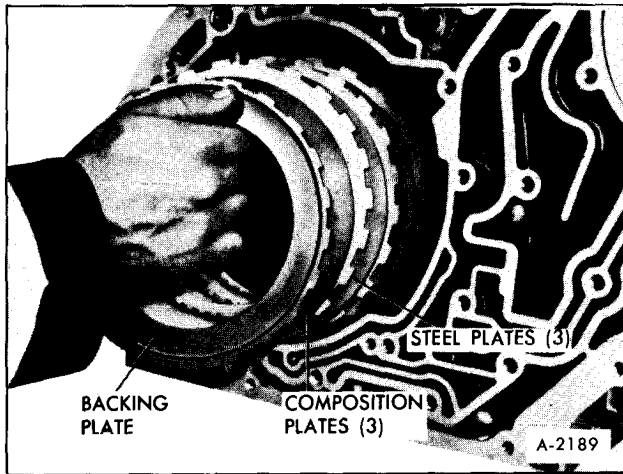

Figure 72—Installing Intermediate Clutch
11. Lubricate three steel and three composition intermediate clutch plates with transmission fluid and install clutch plates in transmission case, Figure 72. Start with steel plate and alternate composition and steel plates.